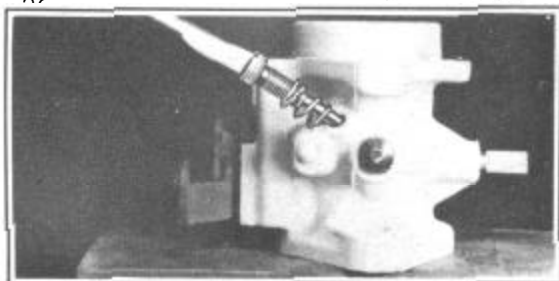

FIGURE 27
8. Install idle adjustment screw and spring, Figure 27. Back out from seated position 1/2 to 1-1/2 turns, Models WA1-749S, 1-1/4 to 2-1/4 turns for Models WA1-968S and 3/4 to 1-3/4 turns for Models WA1-990S. (Make final adjustment after installation.)